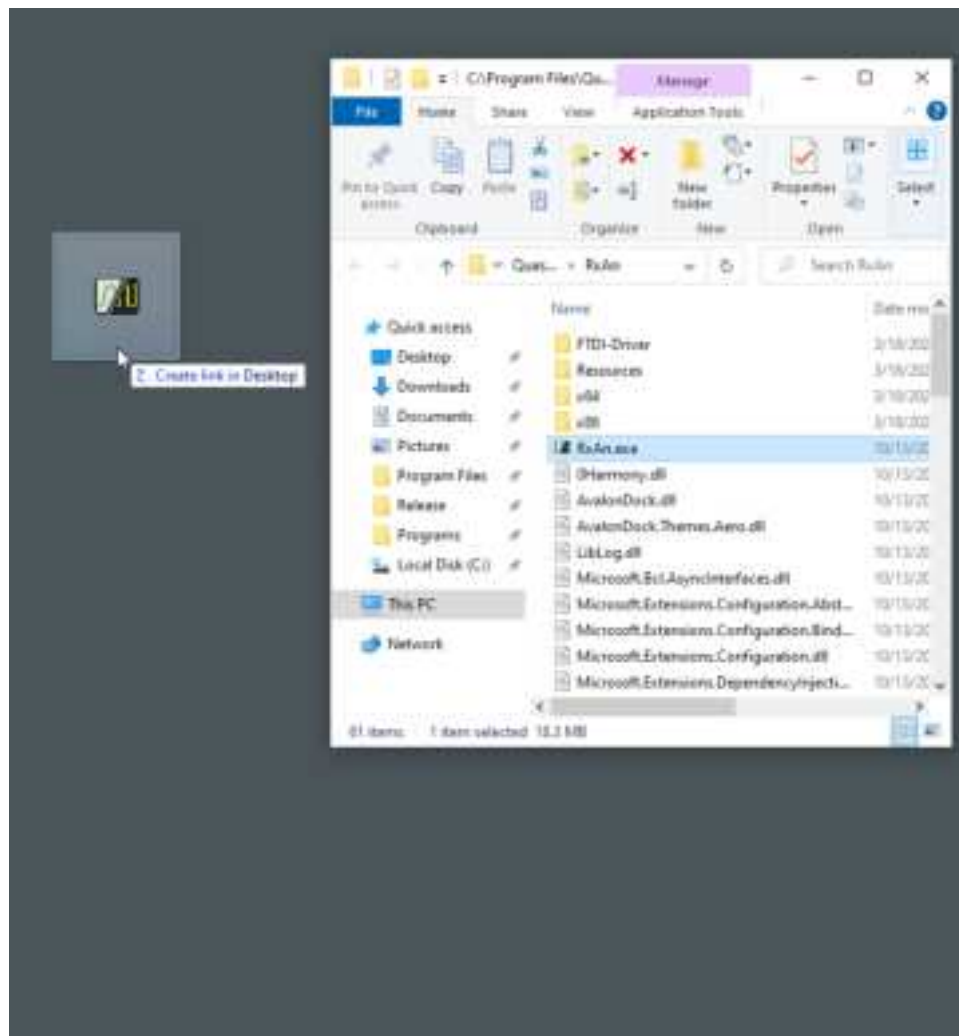

Figure 318: Create Link to RxAn.exe
2. Create a link to RxAn.exe, as shown in Figure 318.